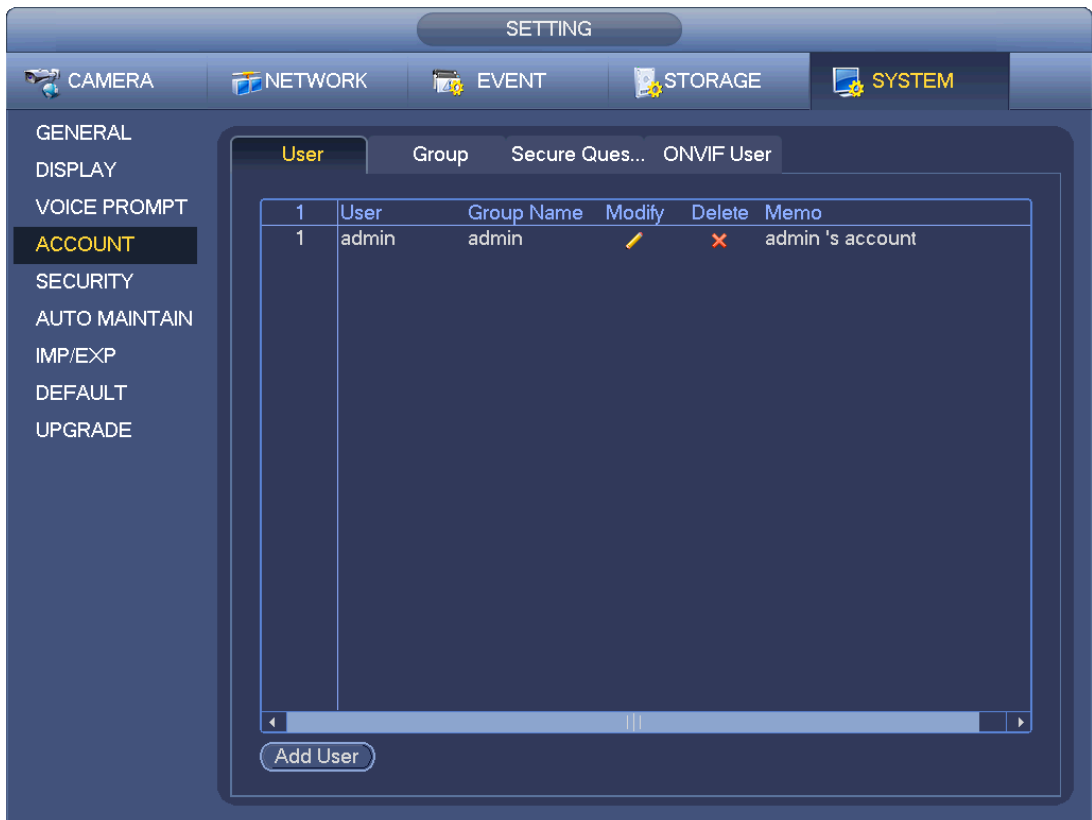

Figure 4-194
Enter user interface. See Figure 4-194.
- Step 2 Click Add user button in Figure 4-194.